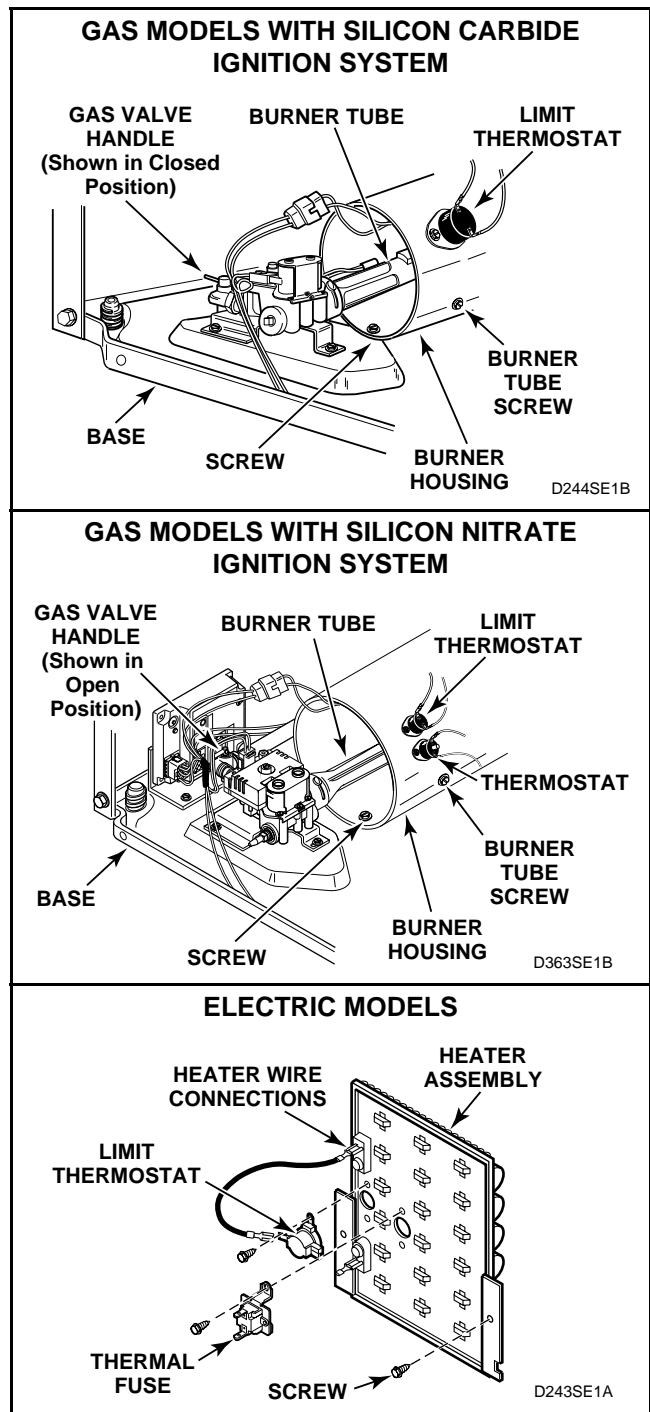

Figure 17
- (1.) Remove one screw from right side of burner housing holding burner tube in place. See *Figure 17*.
- (2.) Gently move burner tube toward rear of dryer to disengage tab from slot on left side of burner housing. See *Figure 17*.
- Remove screw from right side of burner housing, while holding burner tube in place. See *Figure 17*.
- Gently move burner tube toward rear of dryer to disengage tab from slot on left side of burner housing. See *Figure 17*.
- Remove screw holding front of burner housing to dryer base and remove housing out through front of dryer. See *Figure 17*.
- Disconnect wires and remove screws attaching limit thermostat to burner housing or element plate. See *Figure 17*.
- Disconnect wires from element and plate. See *Figure 17*.
- Remove two screws holding element and plate to heater box and remove element and plate out through front of dryer. See *Figure 17*.